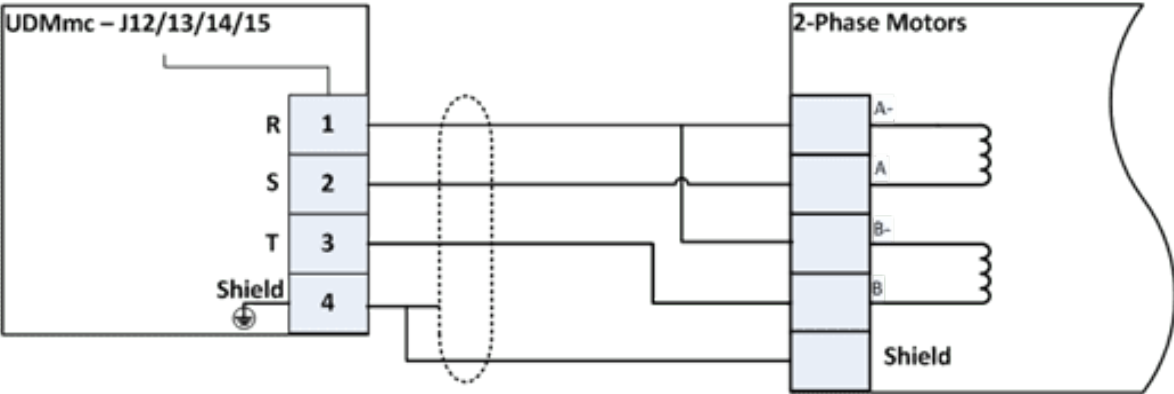

Figure 3-12. 2-Phase Motors (AC synchronous, Step Motor) Connections
- > 2-phase (AC synchronous, step motor), see Figure 3-12.